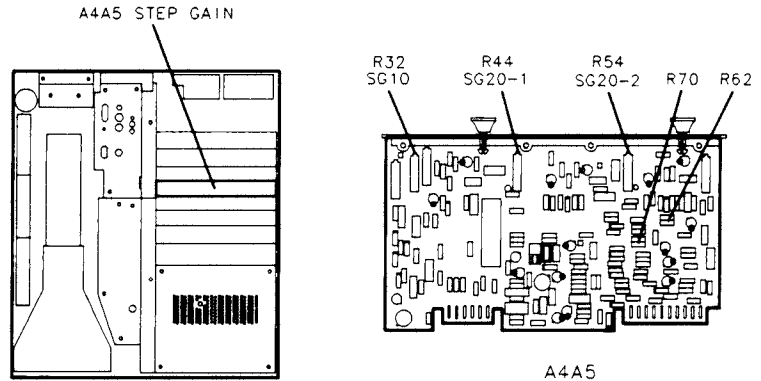

Figure 3-48. Location of 10 dB Gain Step Adjustments
21. Adjust A4A5R32 SG10 for MKR Δ level of .00 dB (CRT MKR Δ annotation is now in upper right corner of CRT display). See Figure 3-48 for location of adjustment.
24. Adjust A4A5R44 SG20-1 for MKR Δ level of .00 dB. See Figure 3-48 for location of adjustment.
26. Adjust A4A5R54 SG20-2 for MKR Δ level of .00 dB. See Figure 3-48 for location of adjustment.